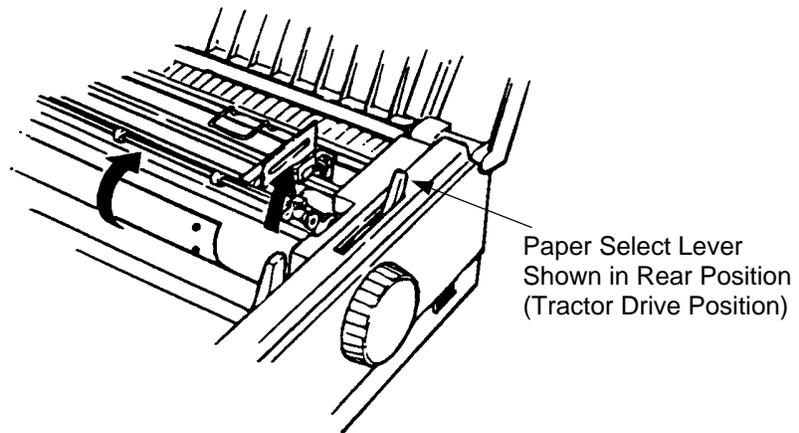

Figure 5-7. Routing of Bottom Feed Paper
- 11.4. Ensure that the paper select lever is in the rear (tractor drive) position (marked with an image of fanfold paper on the top cover). See Figure 5-7.
- 11.5. With the top cover open, raise the paper bail and guide the paper over the platen toward the rear of the ROP. See Figure 5-7.